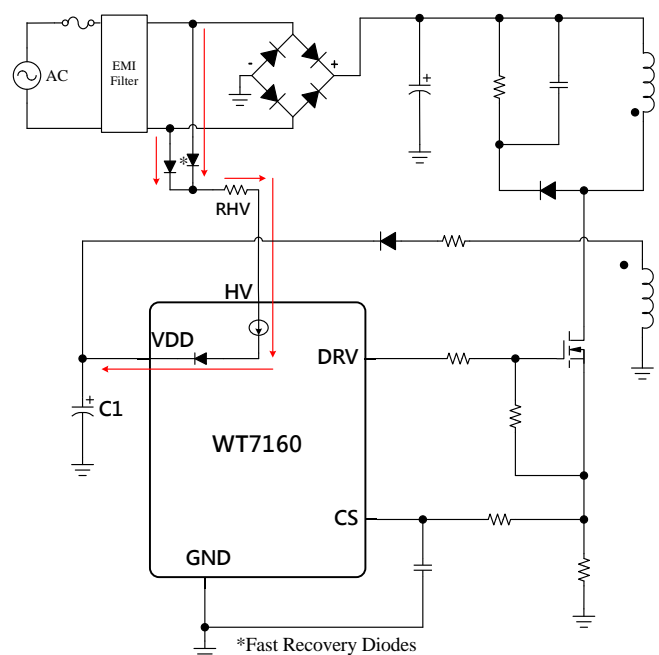

Fig. 5.1
The WT7160 is implemented with a high-voltage startup circuit for fast start-up functions and reduce power dissipations, as shown in Fig. 5.1. At startup, the high-voltage current source sinks current from AC Line and Neutral to provide startup current and charge the capacitor C1 which connected to VDD. At the startup transient, the HV current will charge VDD capacitor until this VDD voltage reaches the UVLO (ON) threshold. As VDD trips UVLO (OFF), HV pin will recharge VDD capacitor till VDD voltage rises back to UVLO (ON) again. The resistor RHV connected in series with HV pin is recommended in the range between 100Ω and 510Ω. Besides, recommended that the VDD capacitor C1 connected with VDD pin is in the range from 22μF to 47μF. It is important to note that it is not allowed to connect HV pin to any dc voltage. (EX: directly to bulk capacitor)